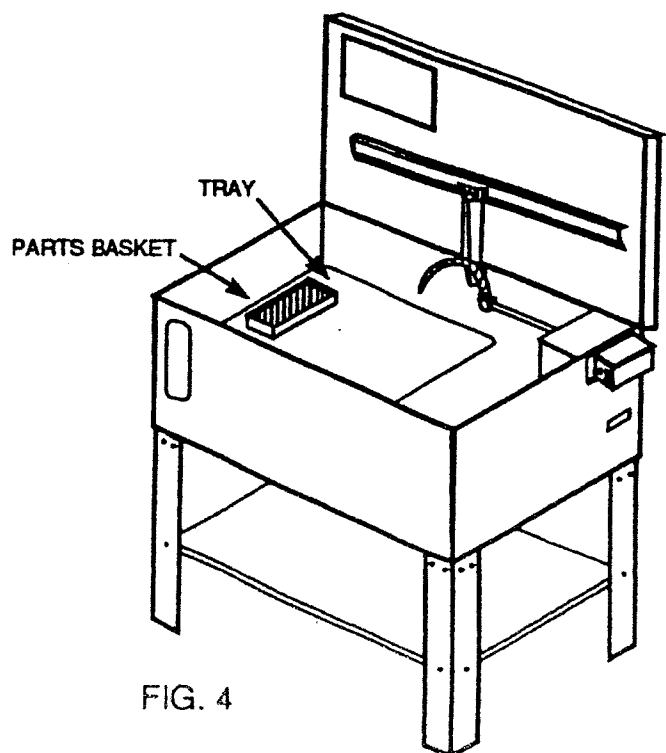

FIG. 4
STEP 4 Turn assembly over onto legs and remove carton and packing. Open tank and place tray and basket inside machine (fig. 4).